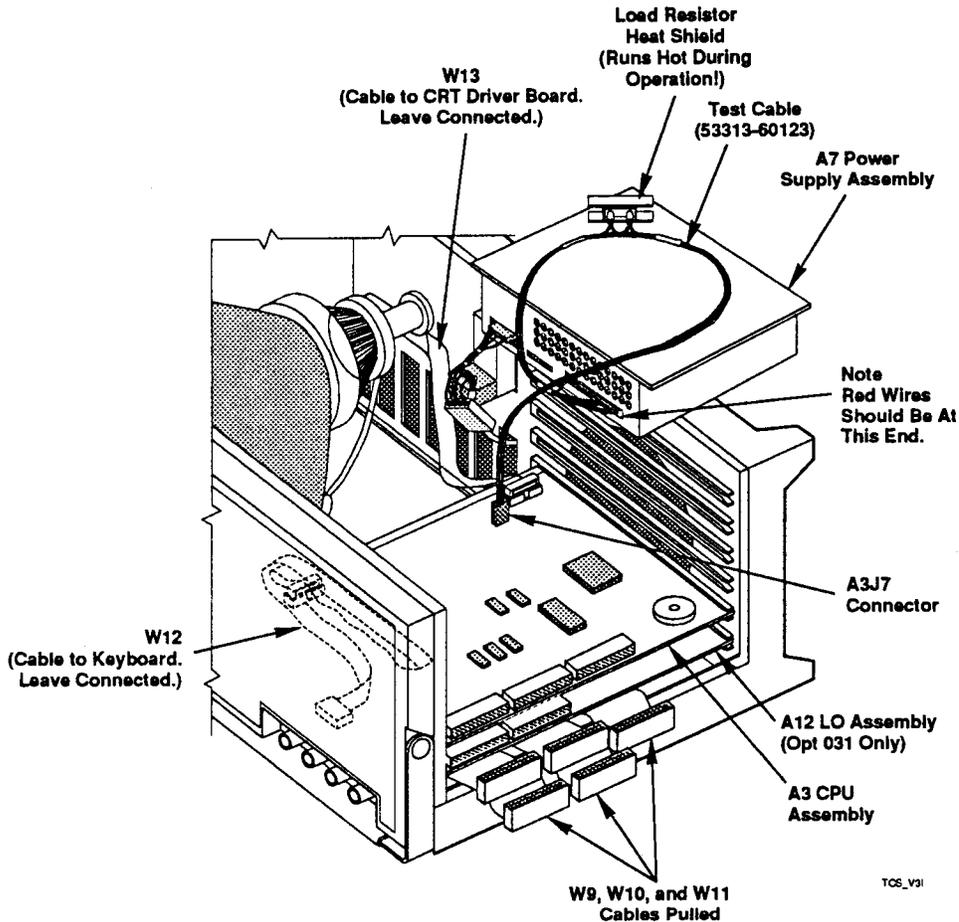

Figure 4-21. Test Cable Setup to Isolate A1 and A3 Assemblies
**BEFORE PERFORMING THE NEXT STEP, OBSERVE THE POLARITY OF TEST CABLE AT A7! RED wires of the cable go toward front of instrument, or toward the closed end of A7 Power Supply Assembly when the power supply is out of the instrument as shown in Figure 4-21.**
3. Install Test Cable (53310-60213) between A7 Power Supply Assembly and A3 CPU Assembly, making sure the polarity of the cable is correct at the A7 power connector as shown in *Figure 4-21*. (The small connector end of the cable which plugs into A3 is keyed.)
4. Leave A6 CRT Monitor cable (W13) and A4 Keyboard cable (W12) plugged into A3 board as shown in *Figure 4-21*.
***BEFORE PERFORMING THE NEXT STEP, OBSERVE THE POLARITY OF TEST CABLE AT A7! RED wires of the cable go toward front of instrument, or toward the closed end of A7 Power Supply Assembly when the power supply is out of the instrument as shown in Figure 4-21.***
**BEFORE PERFORMING THE NEXT STEP, OBSERVE THE POLARITY OF TEST CABLE AT A7! RED wires of the cable go toward front of instrument, or toward the closed end of A7 Power Supply Assembly when the power supply is out of the instrument as shown in *Figure 4-21*.**
4. Leave A6 CRT Monitor cable (W13) and A4 Keyboard cable (W12) plugged into A3 board as shown in Figure 4-21.